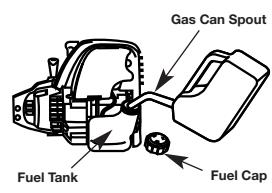

Fig. 18
- Remove the fuel cap (Fig. 18).
- Place the gas container's spout into the fill hole on the fuel tank (Fig. 18) and fill the tank.